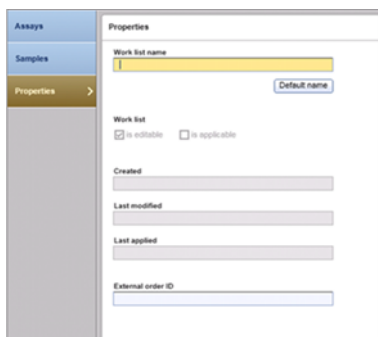

Figure 3. Properties.
- j. Select the **Properties** step and enter a work list name in the **Work list name** field (see Figure 3 on the facing page).